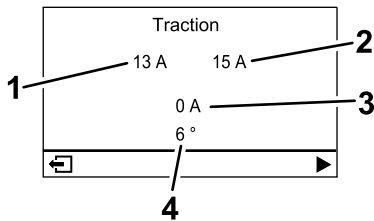

Figure 22
- **Traction motor screen (Figure 22):** shows the current steering angle and the amperage allotted to each traction motor.